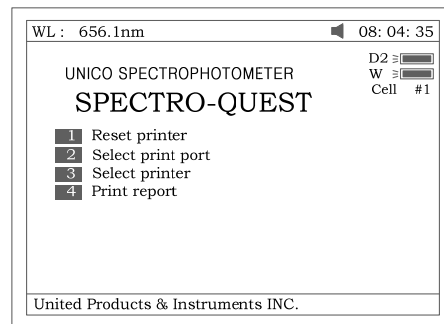
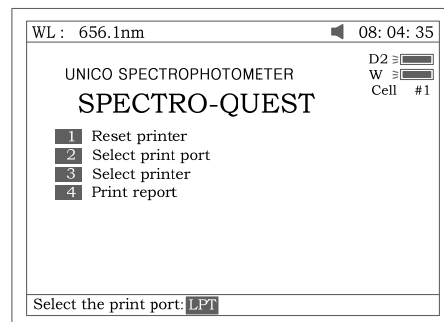
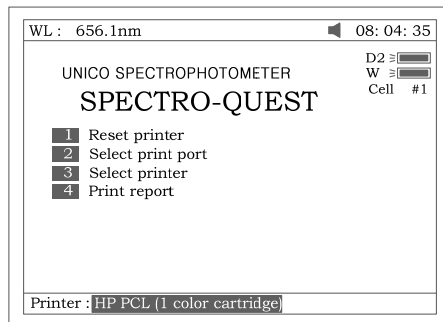
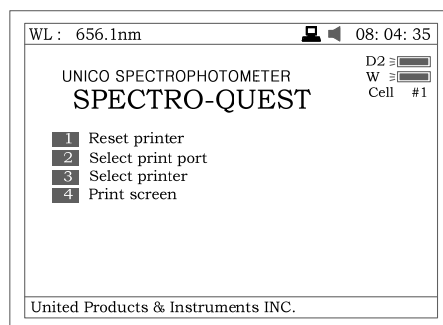

Fig 75
Fig 76
Fig 77
Fig 78
Press **[2]** to set printer (Fig 75). **[ESC/STOP]** to exit.
1. Press **[1]** in Fig 75 to Reset Printer.
2. Press **[2]** in Fig 75 to select print port (LPT or Comm., Fig 76).
3. Press **[3]** in Fig 75 to select printer (HP PCL (1 color cartridge), PCL (black mode), Epson ESC/P or Epson/P2 or above, Fig 77).
4. Press **[4]** in Fig 75 to select print mode. If you select “Print screen” mode, a little icon will be displayed on the top line of the screen (Fig 78), if you select “Print report” mode, the little icon will disappear.